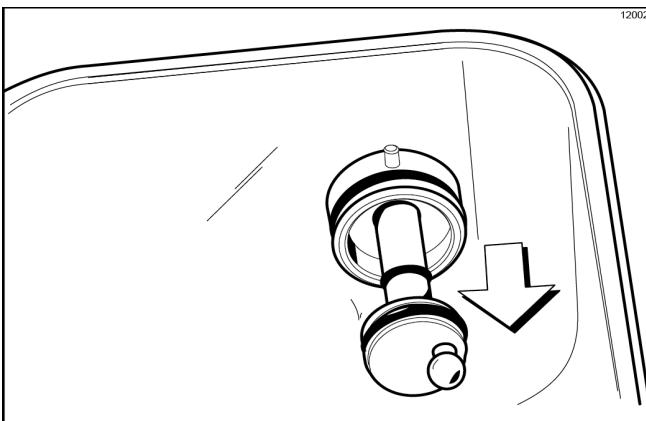

Figure-103
10. Remove the pump driveshaft from the drive hub in the rear wall of the mix hopper. (See Figure-103.)